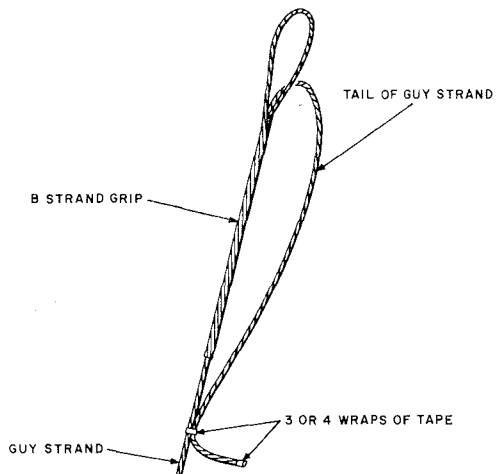

Fig. 12—Assembled Guy With Tail Secured
- (1) Assemble the upper part of the guy on the ground, leaving approximately 3 feet of extra strand as a tail.
- (2) Bend the tail to its approximate final shape and tape it to the main part of the guy **before** raising it (Fig. 12).
- (3) Secure the guy to the pole and the anchor **before** making the connection.
- (4) Untape the tail and connect it to the suspension strand with a B strand ground clamp. Use a D or C connector on self-supporting cable strand.
- (5) **Caution: On joint-use poles, the length of the tail must not exceed 3 feet so it cannot accidentally whip up into the power wires.** Staple the guy tail to the pole; space the staples from 1 to 2 feet apart.